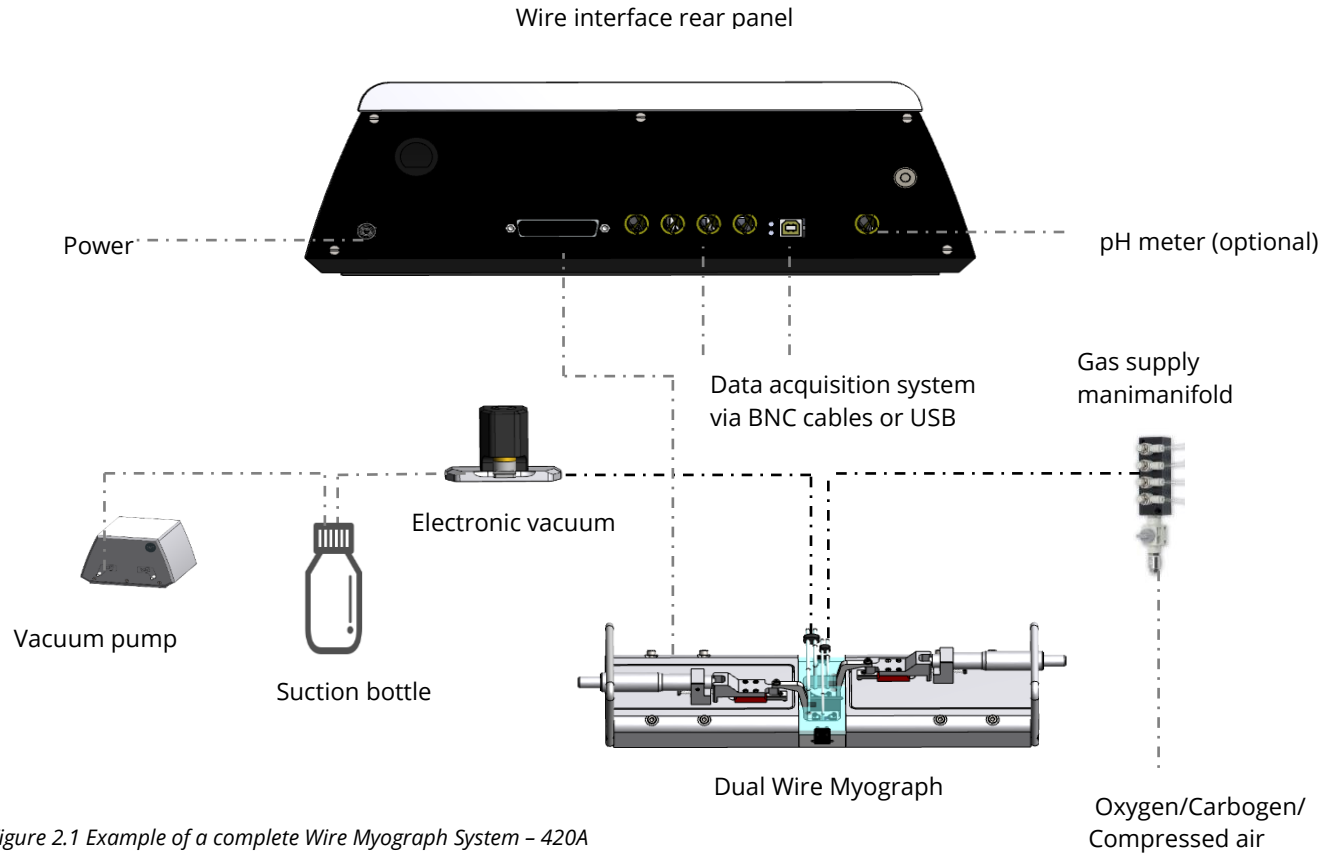
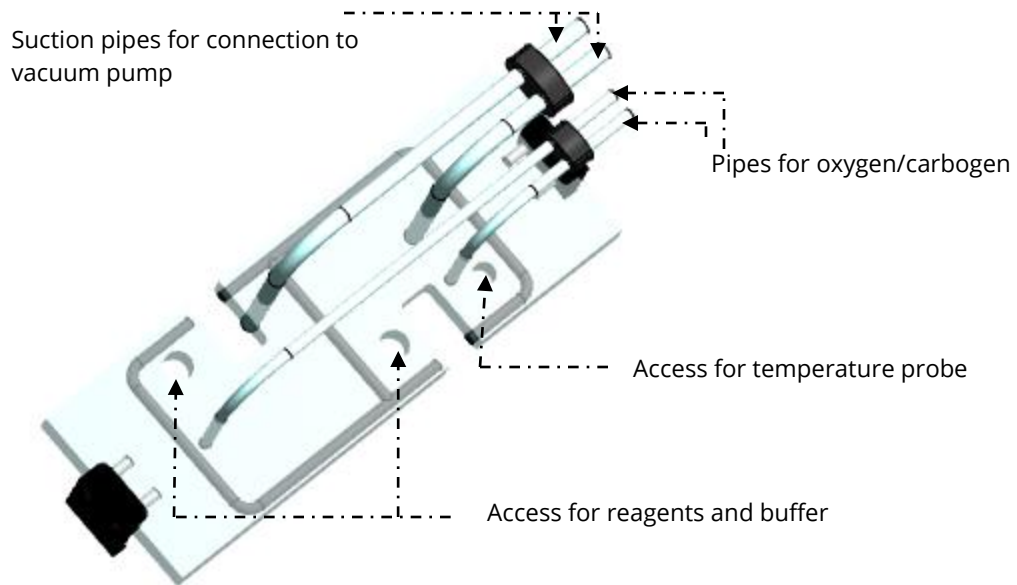

Figure 2.1 Example of a complete Wire Myograph System – 420A
Figure 2.2 Chamber cover for Wire Myograph 420A
Figure 2.1 is a complete set-up for the Wire Myograph System. The set-up includes optional equipment such as pH electrode for measuring pH in the buffer, an electronic vacuum valve, suction bottle, vacuum pump, and a computer and Data Acquisition System.
4. Gas supply: Connect the pipes for gas supply, manifold or similar on the Wire Myograph chamber cover (see figure 2.2) to an adjustable gas supply using thin silicone tubing.
5. Suction connection: Connect the suction pipes on the Wire Myograph chamber cover (see figure 2.2) to a vacuum pump via a suction bottle and the electronic vacuum valve as illustrated in figure 2.1.